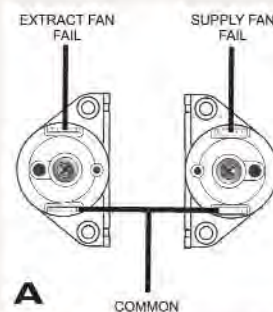

Figure 8
- Refer to Figure 8 interchange the following connections
- 5.2.6 Referring to Figure 8, connect the canopy electrical cable as follows:
- A. If 3 wires are available see Figure 8. This connection is for the individual fans